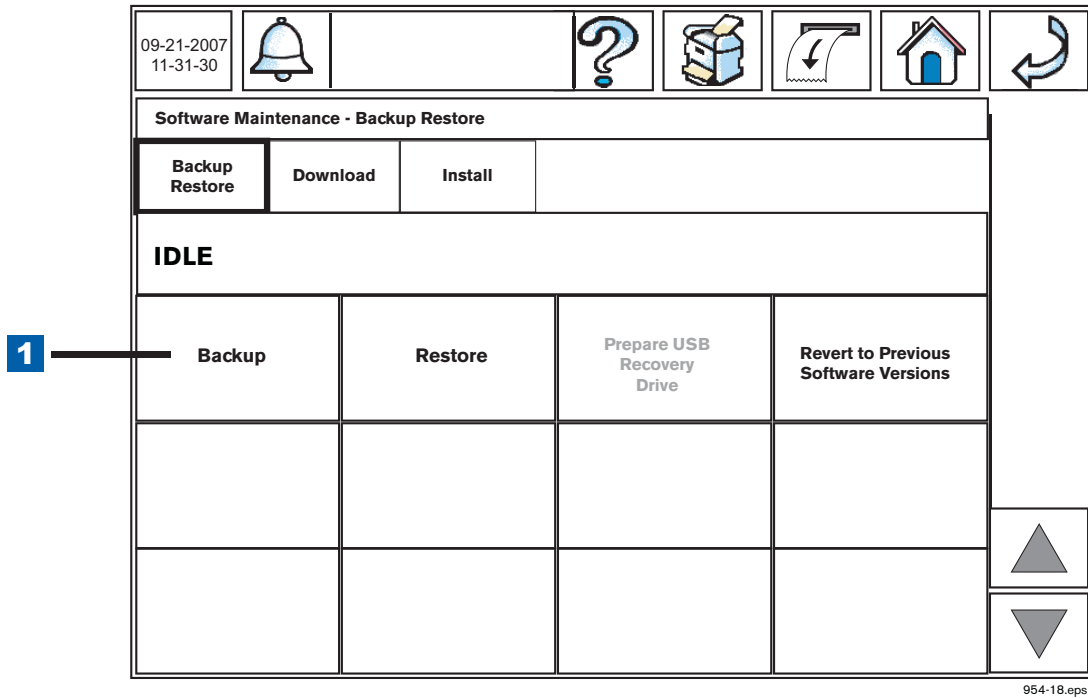

Figure 4. Initiating A System Backup
- 3. Touch the Software Maintenance button on the Diagnostic Maintenance screen (see Figure 3) to open the Software Maintenance - Backup Restore tab screen (see Figure 4).
4. Touch the Backup button (item 1 in Figure 4) to begin the system backup process.
LEGEND FOR NUMBERED BOX IN Figure 4